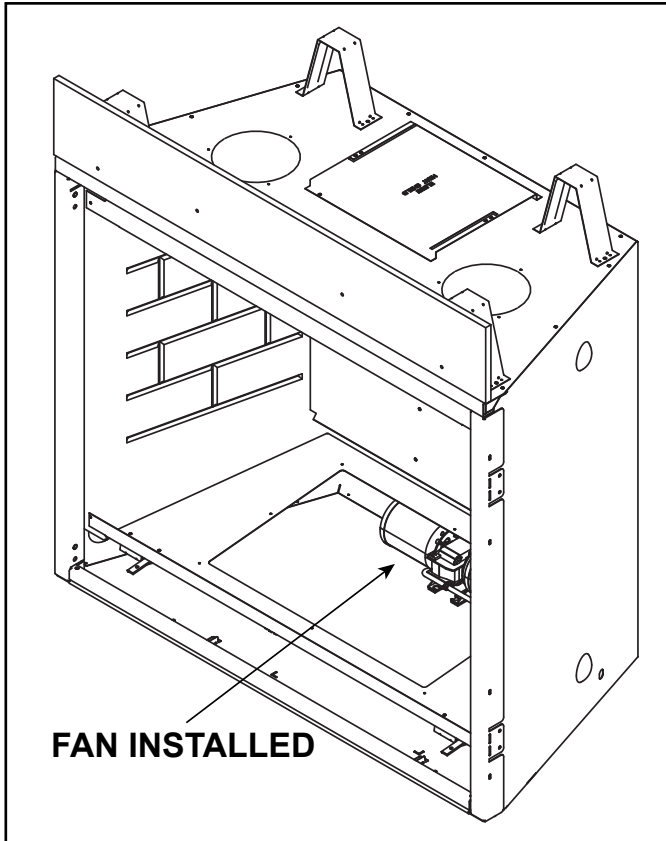

Figure 8.3 Fan Installed in Valve Plate Cavity
- Service can be performed through the valve plate cavity. See Figure 8.3.